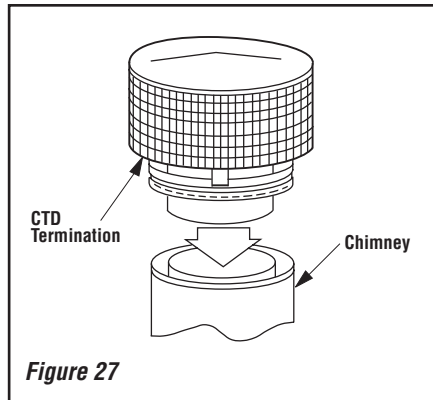

Figure 27
1. Hold the CTD over top of last chimney section (**Figure 27**).